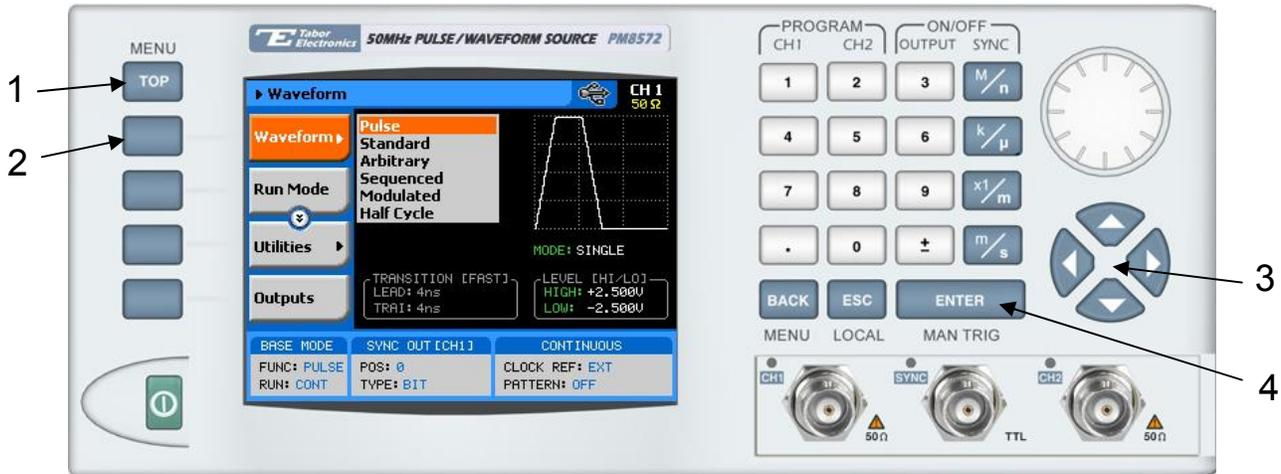

Figure 3-15, Accessing the Pulse Generator Menus
3. Scroll up or down to highlight the pulse option as shown in Figure 3-15.